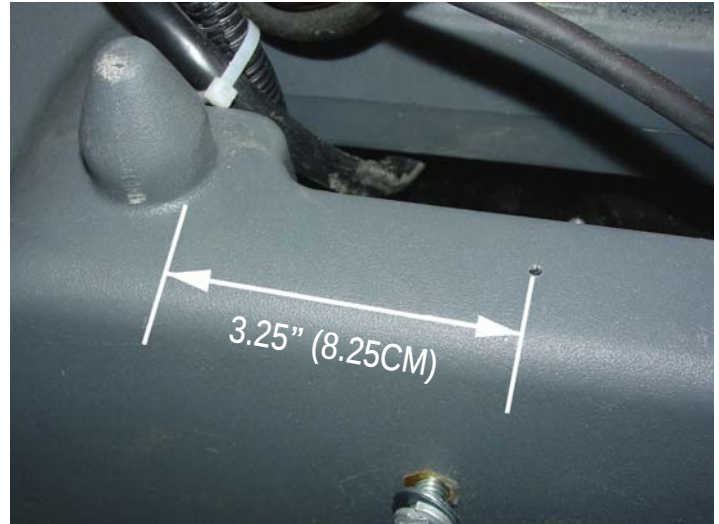
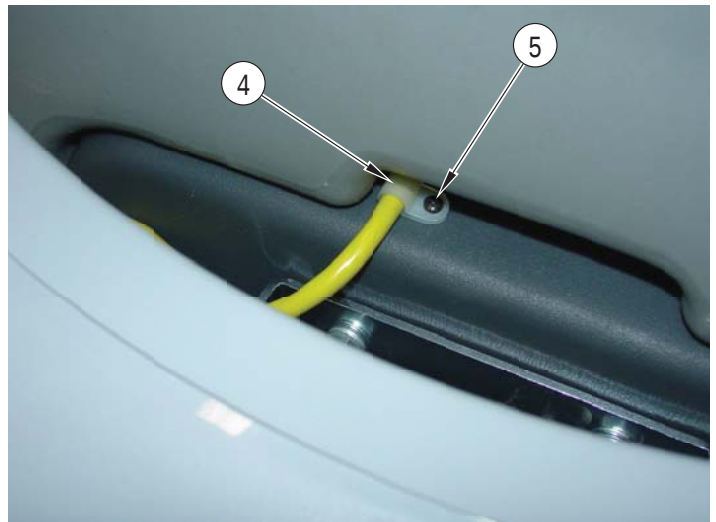

FIGURE 5
FIGURE 6
8. Drill 1/8" (3.2 mm) hole in machine body 3.25" (8.25 cm) from edge of cover locating post as shown in Figure 5. Secure cord with wire clamp (4) and 10-16 x 1/2" self tap screw (5). Make sure the cord does not interfere with battery cover when the cover is in place. See Figure 6.